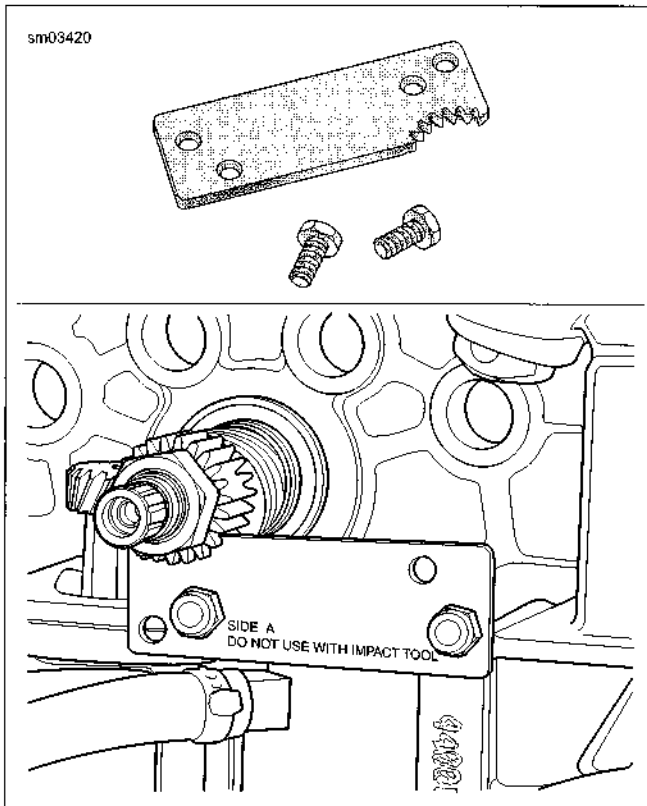

Figure 3-125. Crankshaft Locking Tool (Part No. HD-43984)
3. See Figure 3-125. Install pinion shaft nut.